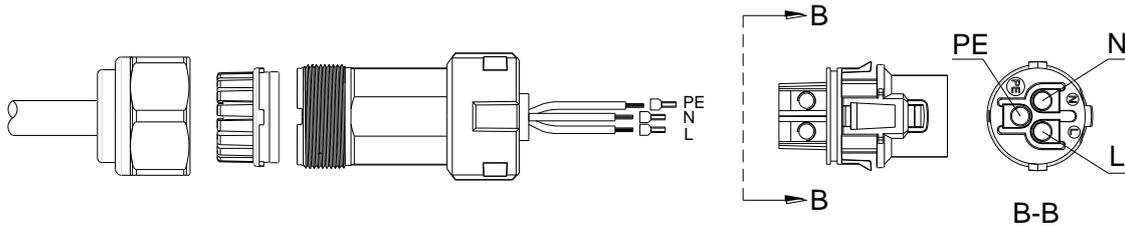

FIG. 7-5 AC Terminal Positions
3) Insert L, N, and PE conductors into the corresponding pins of the plug (as per FIG. 7-5), then tighten the fastening screws by screwdriver to fix conductors firmly. Torque, 2 N.m.